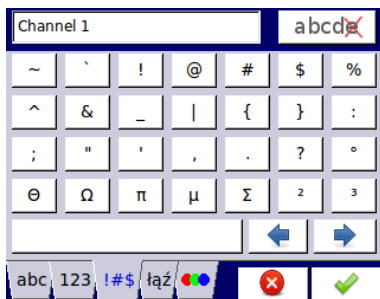

Fig. 7.3. Text editor – special symbols
- special symbols, see **Fig. 7.3**,